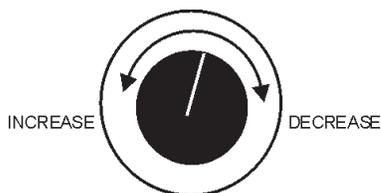

**Figure 43. Frequency Meter (Hz)**
11. The generator's frequency meter (Figure 43) displays the 60 cycle output frequency in **HERTZ**.